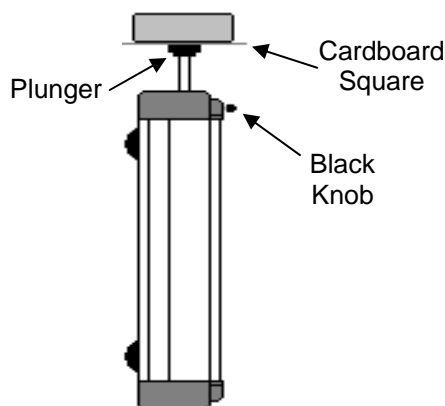

FIGURE 2 –
C) Take the cart and stand it on end. Make sure that the plunger is NOT compressed. Also, take the cardboard square and center it on the plunger. **See Figure 2.** NOTE: At this point the plunger should NOT be compressed.